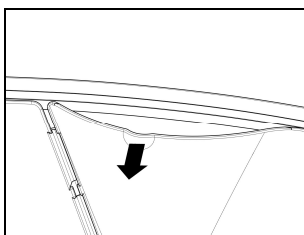

Fig. 24 B – X-903 HELMET
- On the right side of the helmet, bend the cheek pad lining and insert the battery in its housing (Fig. 24 A/B - 25). ONLY FOR X-1005 HELMETS: Remove the filling material. Keep it in case you want to use the helmet without the N-Com system installed in the future.